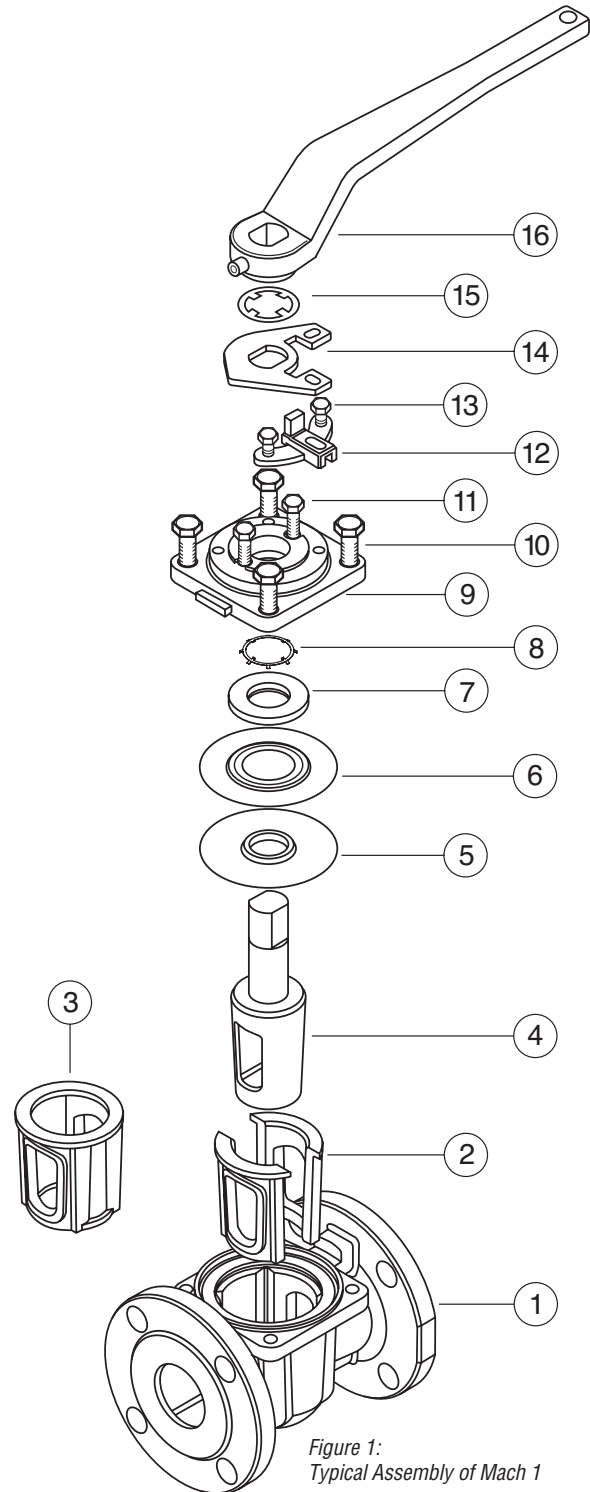

Figure 1:
**NOTE:** Refer to Figure 1 or Figure 15 for parts identification.
**NOTE:** Refer to Figure 1 or 5 for parts identification. If an actuator or gearbox operates the valve, alignment marks should be noted to assure correct orientation when reassembled. This may best be accomplished by making matching marks on the plug stem and operator housing with no burrs made on the plug stem.
**NOTE:** Part number reference is shown in Figure 1.